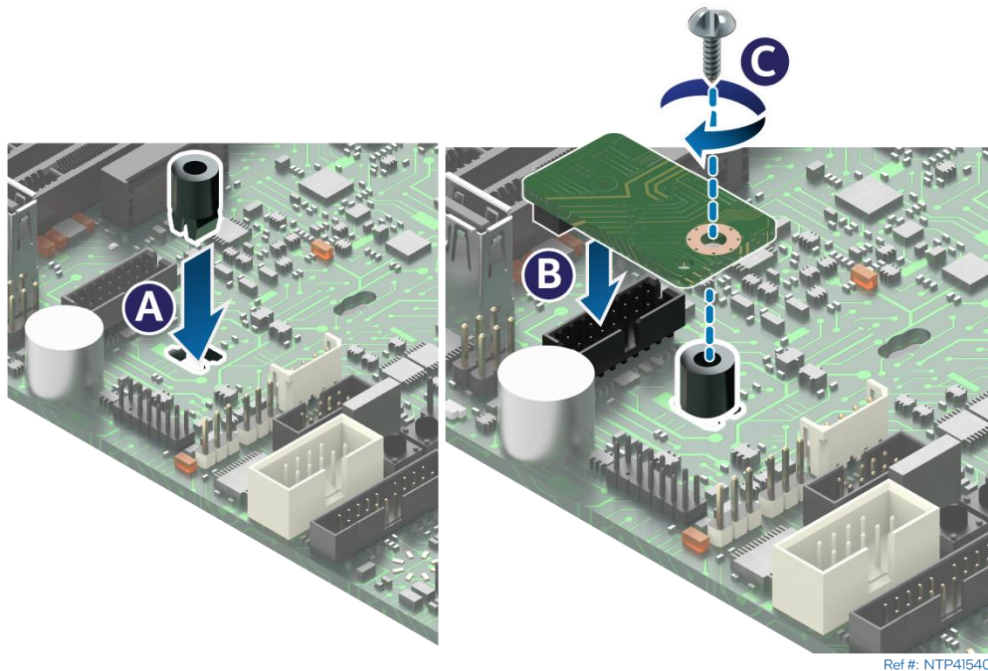

Figure 45. TPM Placement
7. Install the mounting hardware and TPM onto the server board (see Figure 45).